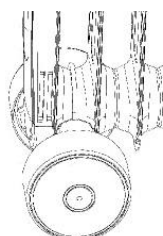

Fig. 8
- Turn back the radiator. Make sure that roller-legs are screwed tightly (figure 8).